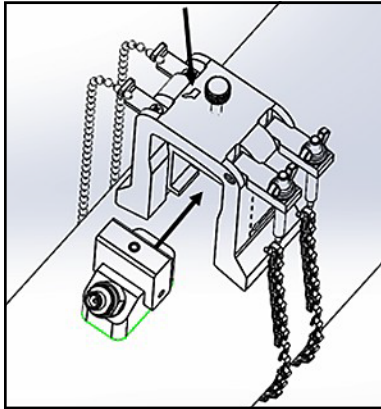

Figure 41: Insert Transducer into Yoke
8. Loosen the yoke screw. Then, apply couplant to the transducer face and insert the transducer into the yoke, as shown in Figure 41 below.